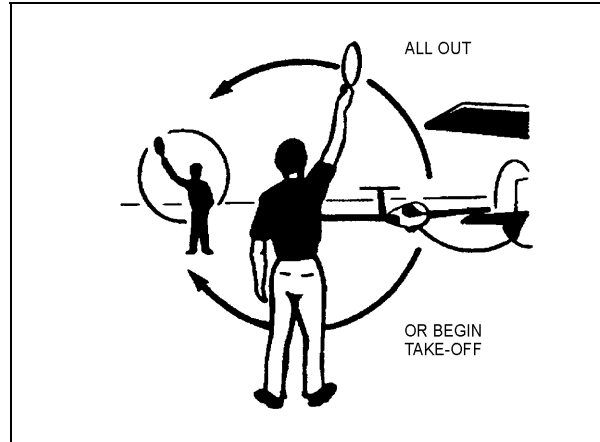

Figure 2-4-2 "All Out" Signal
- h. **"All Out"**. The glider pilot issues this command to the wing person/hook-up person verbally and by showing the thumb and two fingers on the left hand. The wing person/hook-up person then proceeds to hand signal the tow aircraft signaller to have the tow pilot advance power for take-off. The signal consists of movement of the arm in a continuous 360 degree circular motion in front of the body (see Figure 2-4-2).